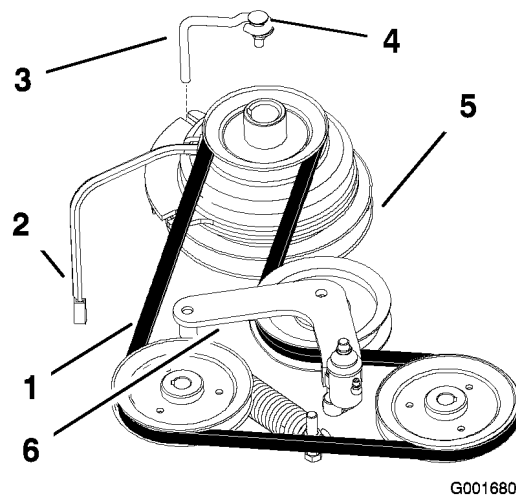

Figure 50
2. Remove the bolt from the clutch stop and unplug the clutch electrical wire (Figure 50).
4. Remove the traction belt from the engine and the hydraulic pump pulleys (Figure 50).
5. Install the new belt around the engine and the hydraulic pump pulleys (Figure 50).
7. Release the pressure on the spring loaded idler (Figure 50).